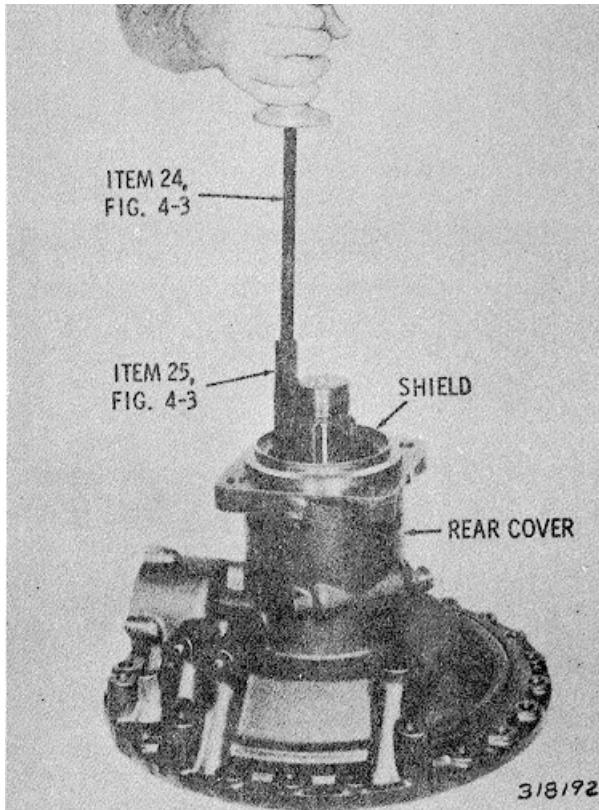

Fig. 6-49 Removing dust shield from rear cover
- (1) Using remover 24 (fig. 4-3), remove the dust shield from the rear cover (fig. 6-49).